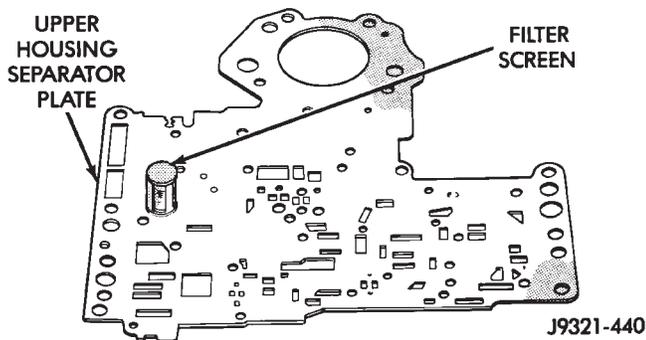

Fig. 96 Separator Plate Filter Screen Installation
- (2) Install filter screen in upper housing separator plate (Fig. 96).